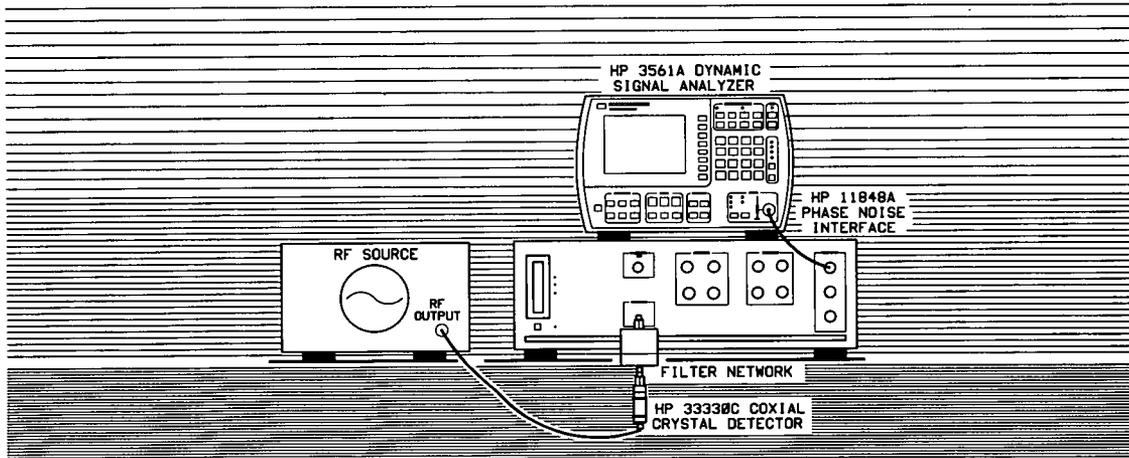

Figure 3-30. Setup Diagram for AM Noise Measurement Example.
3. **When the Connect Diagram appears on the HP 3048A's display, connect the signal paths as shown in Figure 3-30.** Table 3-24 contains setup considerations that will help ensure that your measurement results are valid.